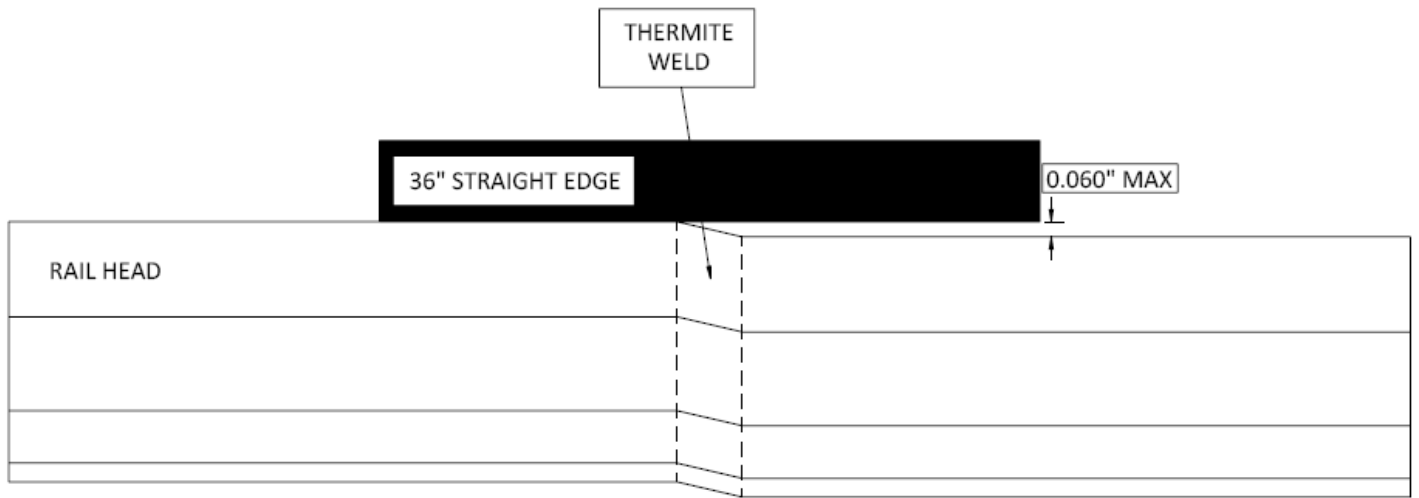

Fig. 30.2
- b. Vertical offset should not exceed sixty thousandths (0.060) of an inch (Figure 30.2) Goal: 0.000"